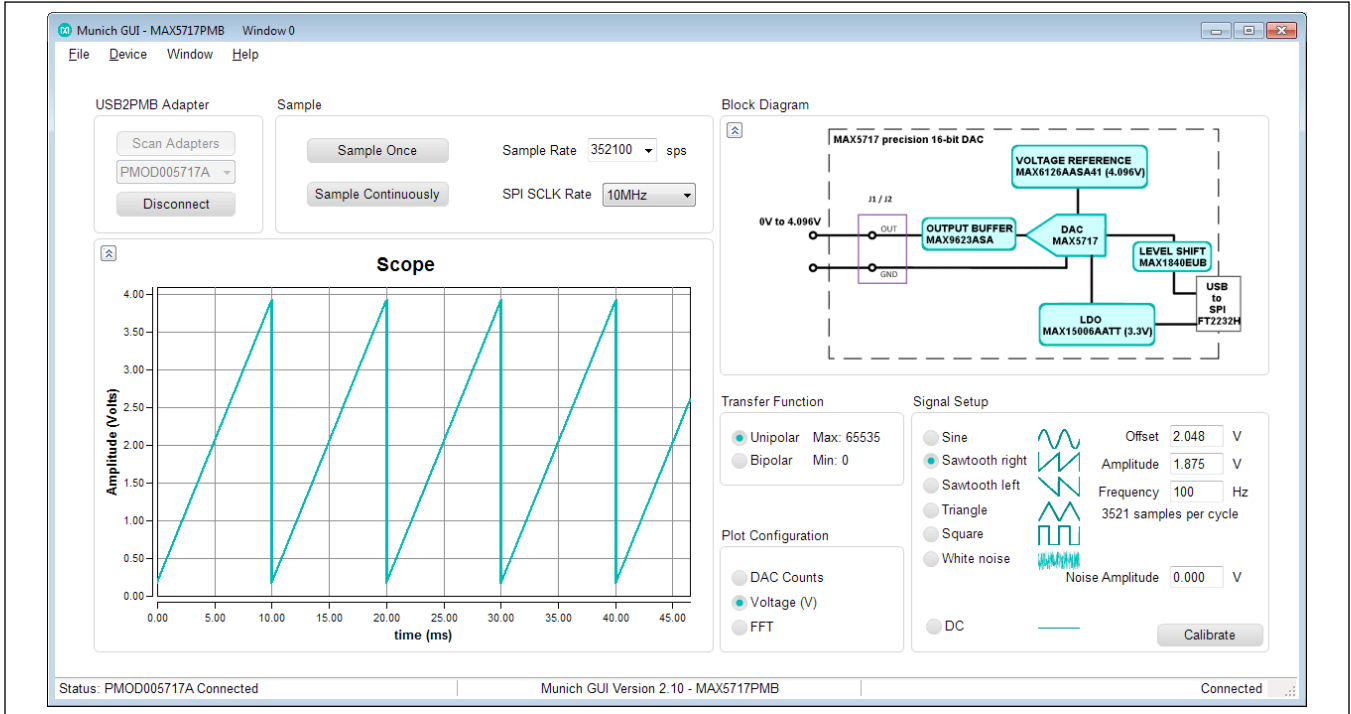
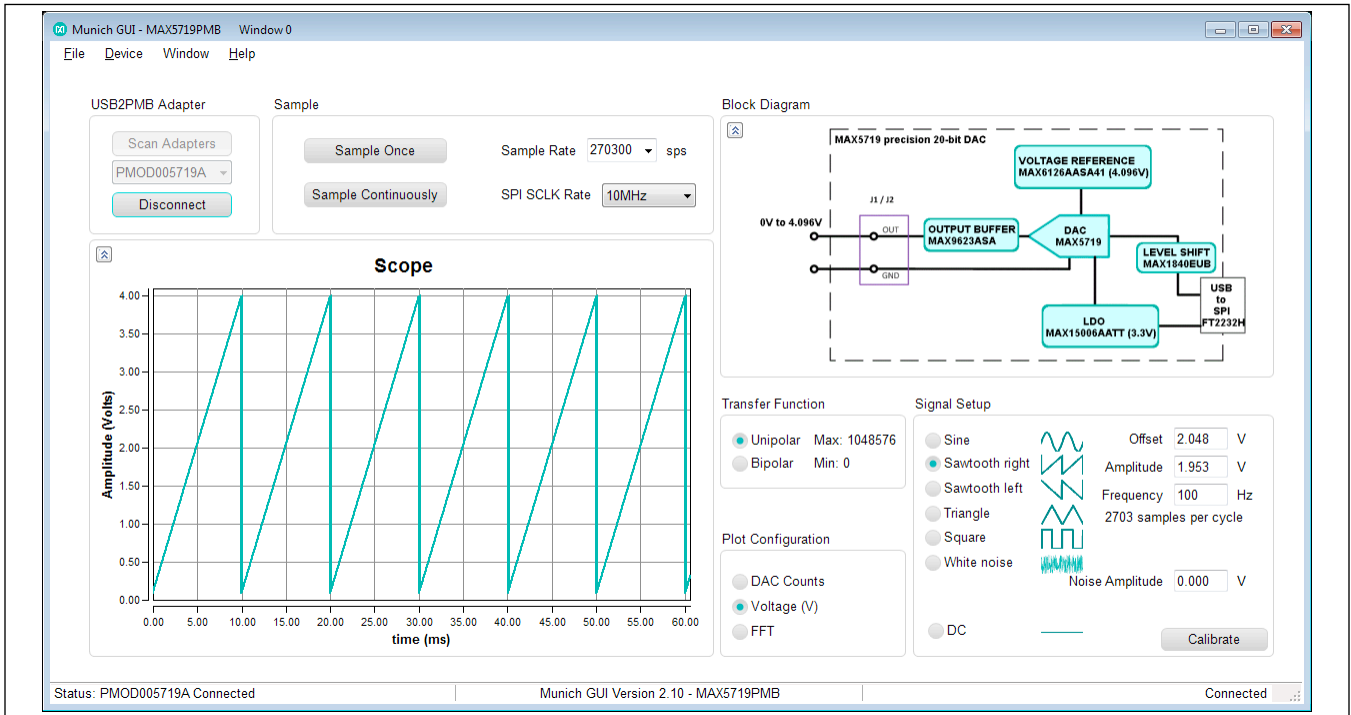

Figure 1. MAX5717 EV Kit Main Window
Figure 2. MAX5719 EV Kit Main Window
- 6) Click the **Scan Adapters** button. Then select the option **PMODxxxxxx** (where xxxxxx is numeric) and click the **Connect** button. See Figure 1 and Figure 2.